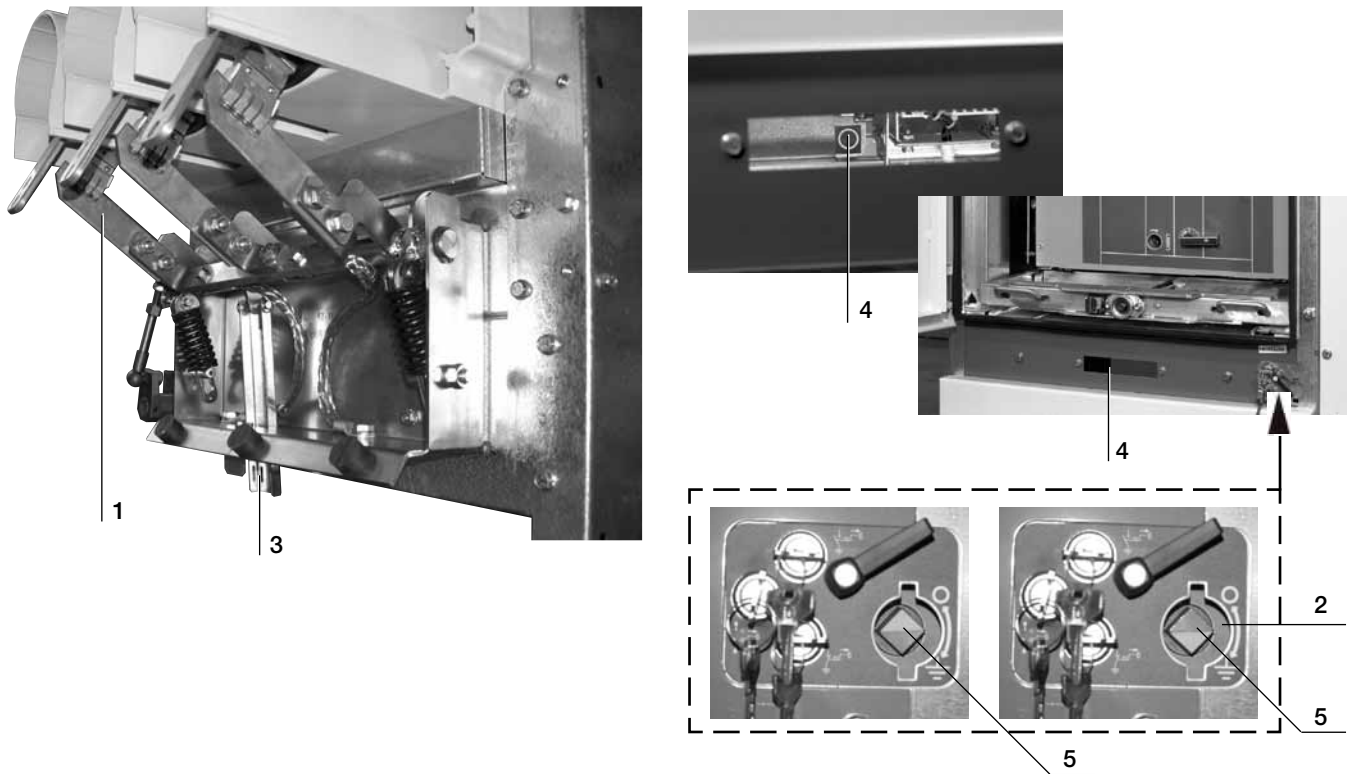

Fig. 8
The earthing switch (1) (fig. 8) with making capacity is placed in the rear part whereas the front houses the operating mechanism (2).
**⚠ Before accessing the cable terminals, make sure that the earthing switch position indicators (3) fig. 8, visible through the inspection window (4) and (5) fig. 8, visible from the operating seat of the earthing switch, confirm that closing has taken place.**